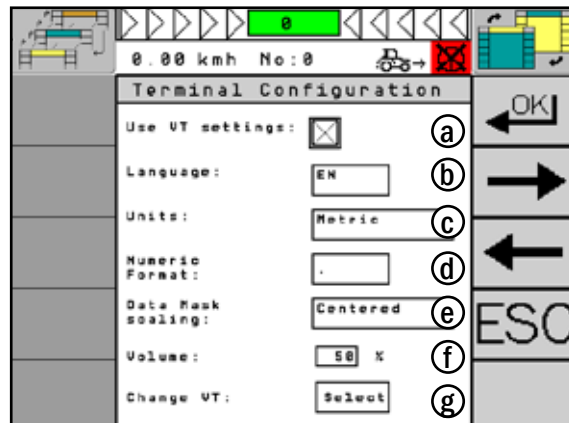

Fig. 44: Terminal configuration page 1
The menu is clearly summarized on two pages. (see Fig. 44). With the selection key of your ISOBUS terminal, you can navigate through the menu page and make the relevant settings. By using the arrow keys, you get to the second page.
- a) Select “Use VT settings” if you wish to adopt the settings of the used terminal for ULTRA GUIDANCE PSR ISO (also see Fig. 44 – a).
- b) With the “Language” button, you can select the desired language. There are German (DE), English (EN), French (FR), Dutch (NL), Polish (PL), Romanian (RO), Spanish (ES) and Japanese (JP) available (see Fig. 44 – b).
- c) With the “Units” button, you select the unit you wish to use (metric or imperial) (see Fig. 44 – c).
- d) With the “Numerical Format” button, you can select the desired format (1.000,00 or 1,000.00) (see Fig. 44 – d).
- e) With the “Data Mask scaling” button, you make the screen settings of the PSR mask on your terminal. You can choose between centered and stretched (see Fig. 44 – e).
- f) With the “Volume” button, you can define the system volume of ULTRA GUIDANCE PSR ISO (see Fig. 44 – f).
- g) With the “Change VT” button (see Fig. 44 – g), the system shows the active as well as the available VTs.